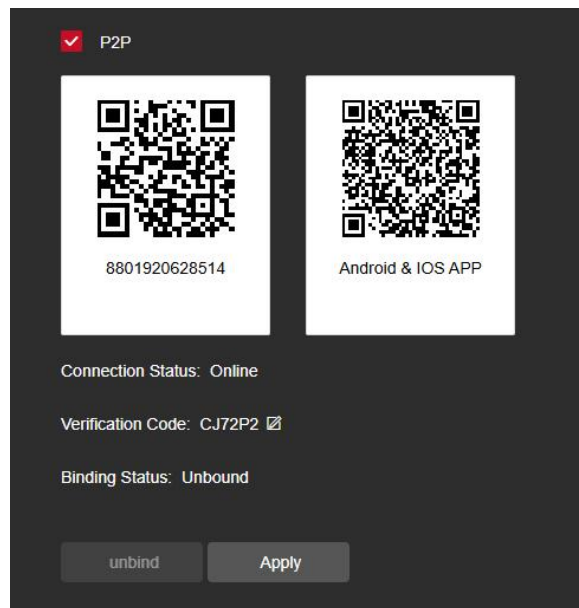

Figure 8-3-16
Step 1: In the main interface, click "Configuration → Network → P2P" to enter the P2P settings interface, as shown in Figure 8-3-16.